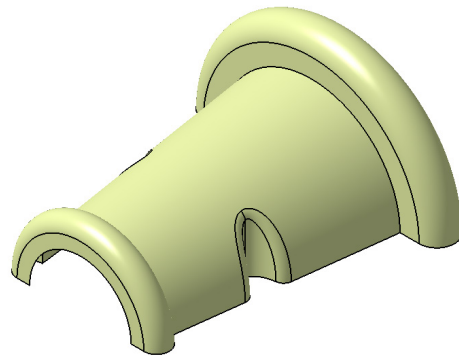

Figure 17-92 Resultant fillet feature
3. Set **5** in the **Radius** spinner and then choose the **OK** button from the **Edge Fillet Definition** dialog box. Figure 17-92 shows the model after adding the fillet.